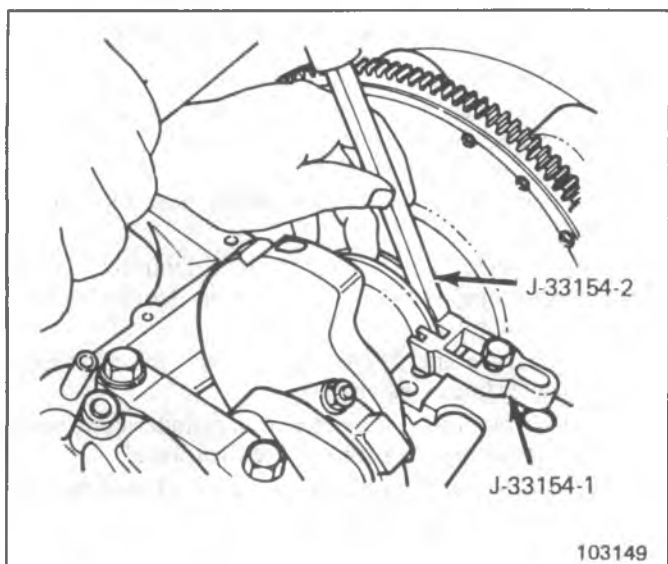

Fig. 6A7-37--Using Guide Tool
9. Using tool J-33153 as shown in Figure 6A7-38 and cut ends of seal flush with cup.